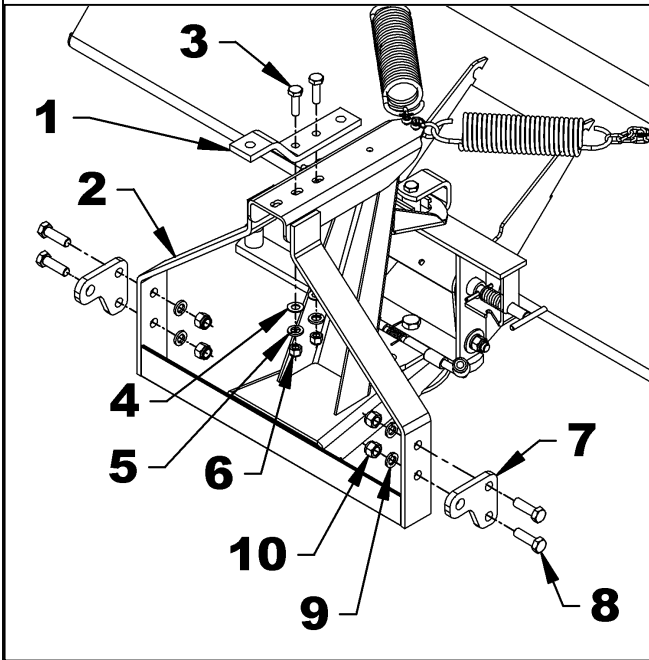

Figure 7B
- **If the A distance is longer than 4 1/4", proceed with the Installation option 1 - figures 7B-8B.**
1. **Figure 7B or 9B:** As shown, attach the common upper support (item 1) to the universal hitch (item 2) with two 1/2"NC x 1 3/4" lg. hex. bolts (item 3), 9/16" hole flat washers (item 4), 1/2" lockwashers (item 5) and 1/2"NC nylon insert locknuts (item 6). The common upper support (item 1) must be placed at the end of the slotted holes towards the rear of the broom.
2. **Figure 7B or 9B:** As shown, attach the two common lower supports (item 7) to the universal hitch (item 2) with four 5/8"NC x 2" lg. hex. bolts (item 8), 5/8" lockwashers (item 9) 5/8"NC nylon insert locknuts (item 10).